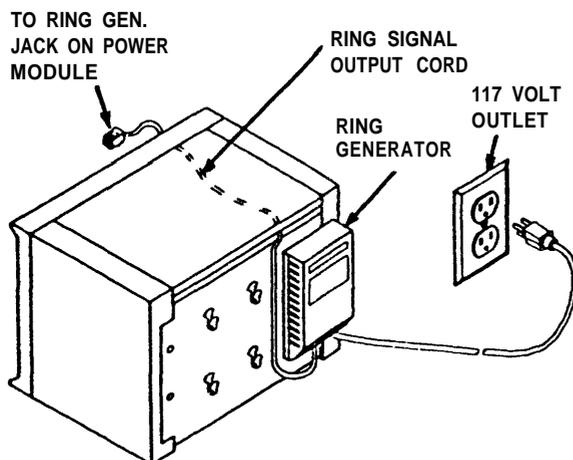

Figure 2
The ring generator unit has protective feet on the base for mounting on a horizontal surface. Keyhole slots in the base permit vertical mounting using a wall mounting bracket. For Model 1030 and 3070 applications, the unit is mounted on hangers on the back cover of the control unit. (See Figure 2.)
2. Run the ring signal output cord through and out the opening under the top front rail of control unit. (See Figure 2.)